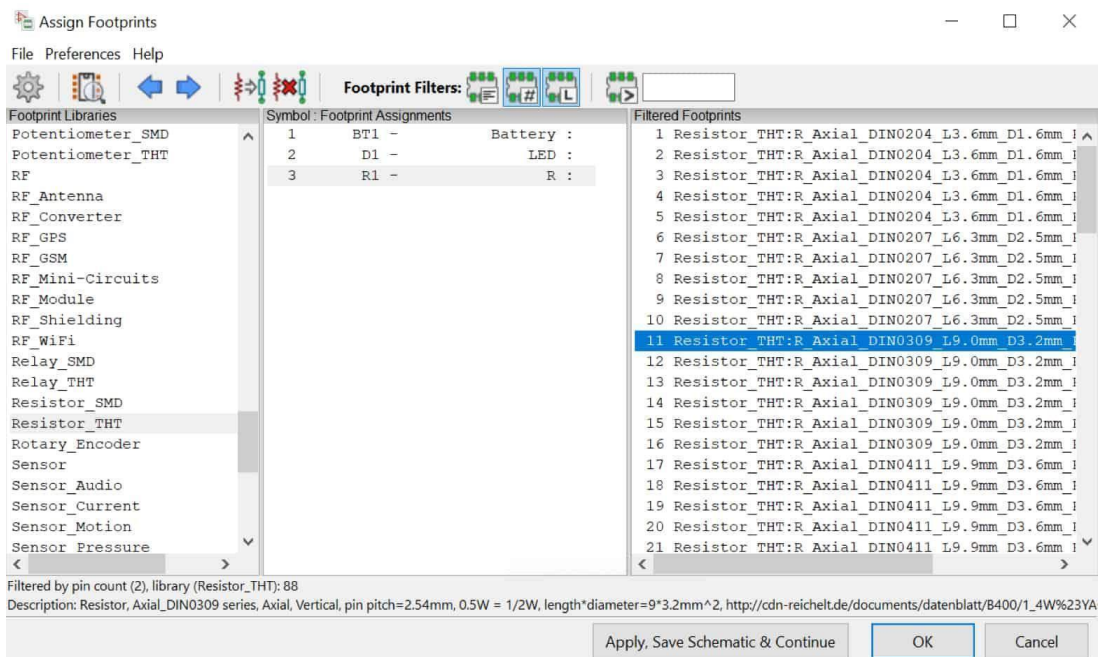

Figure 12.13 The footprint selector
- Figure 12.13 shows the footprint selector. On the left side, you see all the footprint libraries you have available. In the middle, you have the components from your schematic. And on the right, you have a list of footprint options to choose from.